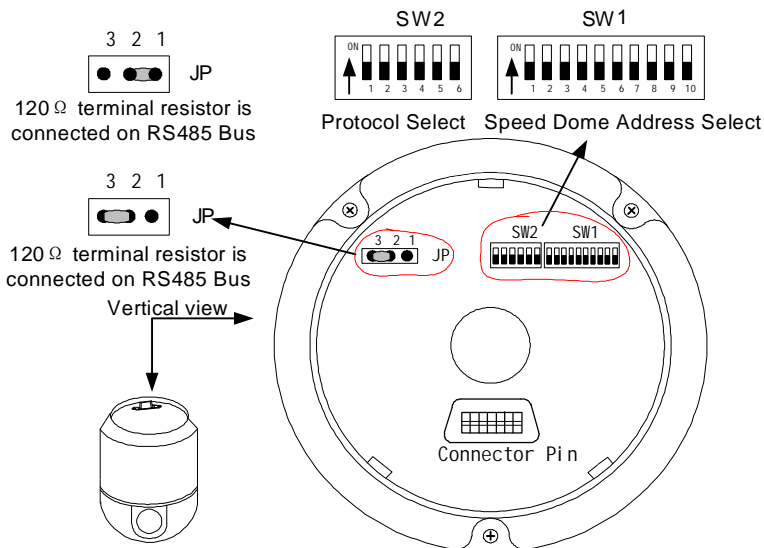

Figure 2
As shown in Figure 2, SW1 is used to set address of the dome camera from 1 – 1023. The coding switches from DIP-10 to DIP-1 are equivalent to a 10-bit binary digital. DIP-10 is MSB while DIP-1 is LSB. The state “ON” of each bit means 1 while “OFF” means 0. Following table shows states of coding switches of some addresses.
3. Setup of the Protocol and the Default Baud Rate. As shown in Figure 2, SW2 is used to set the protocol of communication and the baud rate used by the dome camera. DIP-4 to DIP-1 of SW2 is used to select protocols and 16 different protocols can be selected in maximum. Following table shows
4. Setup of the Baud Rate of Communication. As shown in Figure 2, SW2 is used to set the protocol of communication and the baud rate used by the dome camera. DIP-6 and DIP-5 of SW2 are used to select the baud rate of communication and 4 different baud rates can be selected in maximum. If the controller adopts non-standard baud rate, you can adjust it to be identical with that of the main machine as per the following table.
As shown in Figure 2, **JP1** is the select switch of the 120 Ω terminal resistor on the bus RS485, on which only one terminal resistor of the dome camera at the farthest end can be connected, while the terminal resistors of other devices should be opened.